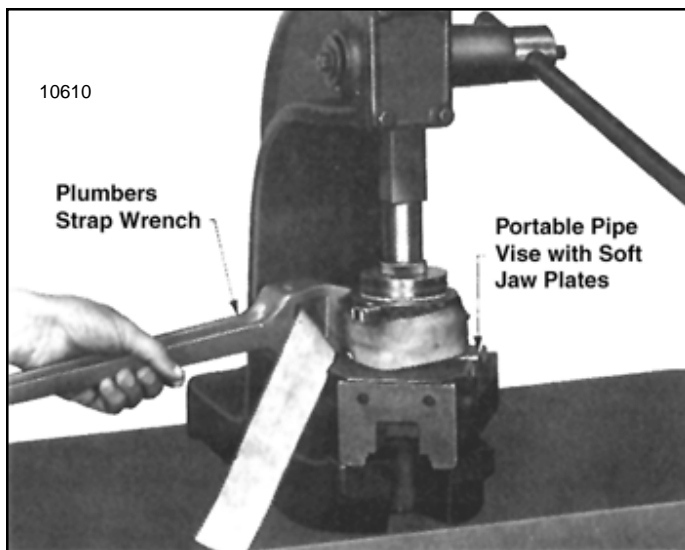

Figure 7-25. Winding Load Brake Gear Using a Strap Wrench to Set Up Load Brake Spring
(6) The brake spring must be pre-loaded at assembly to a torque of from 6 to 10 lb. ft. when used with yellow (color code) spring and a torque of 10 to 14 lb. ft. when used with plain (no color code) spring. (See Section IX for proper spring). This is accomplished using a plumber's strap wrench to wind (rotate) load brake gear to set up spring (fig. 7-25) while pressing brake flange into place using an arbor press. Clamp pinion end of shaft into a portable vice to keep brake from rotating in press. Use brass or copper jaw plates on vise to protect pinion gear teeth. Wind gear counterclockwise (viewing brake from flange end) with strap wrench and press down on flange until snap ring groove in shaft is exposed allowing snap ring to be installed. Use extreme care not to over wind spring as yield will result and final spring torque will be reduced. Do not wind gear beyond point necessary to install snap ring in groove.